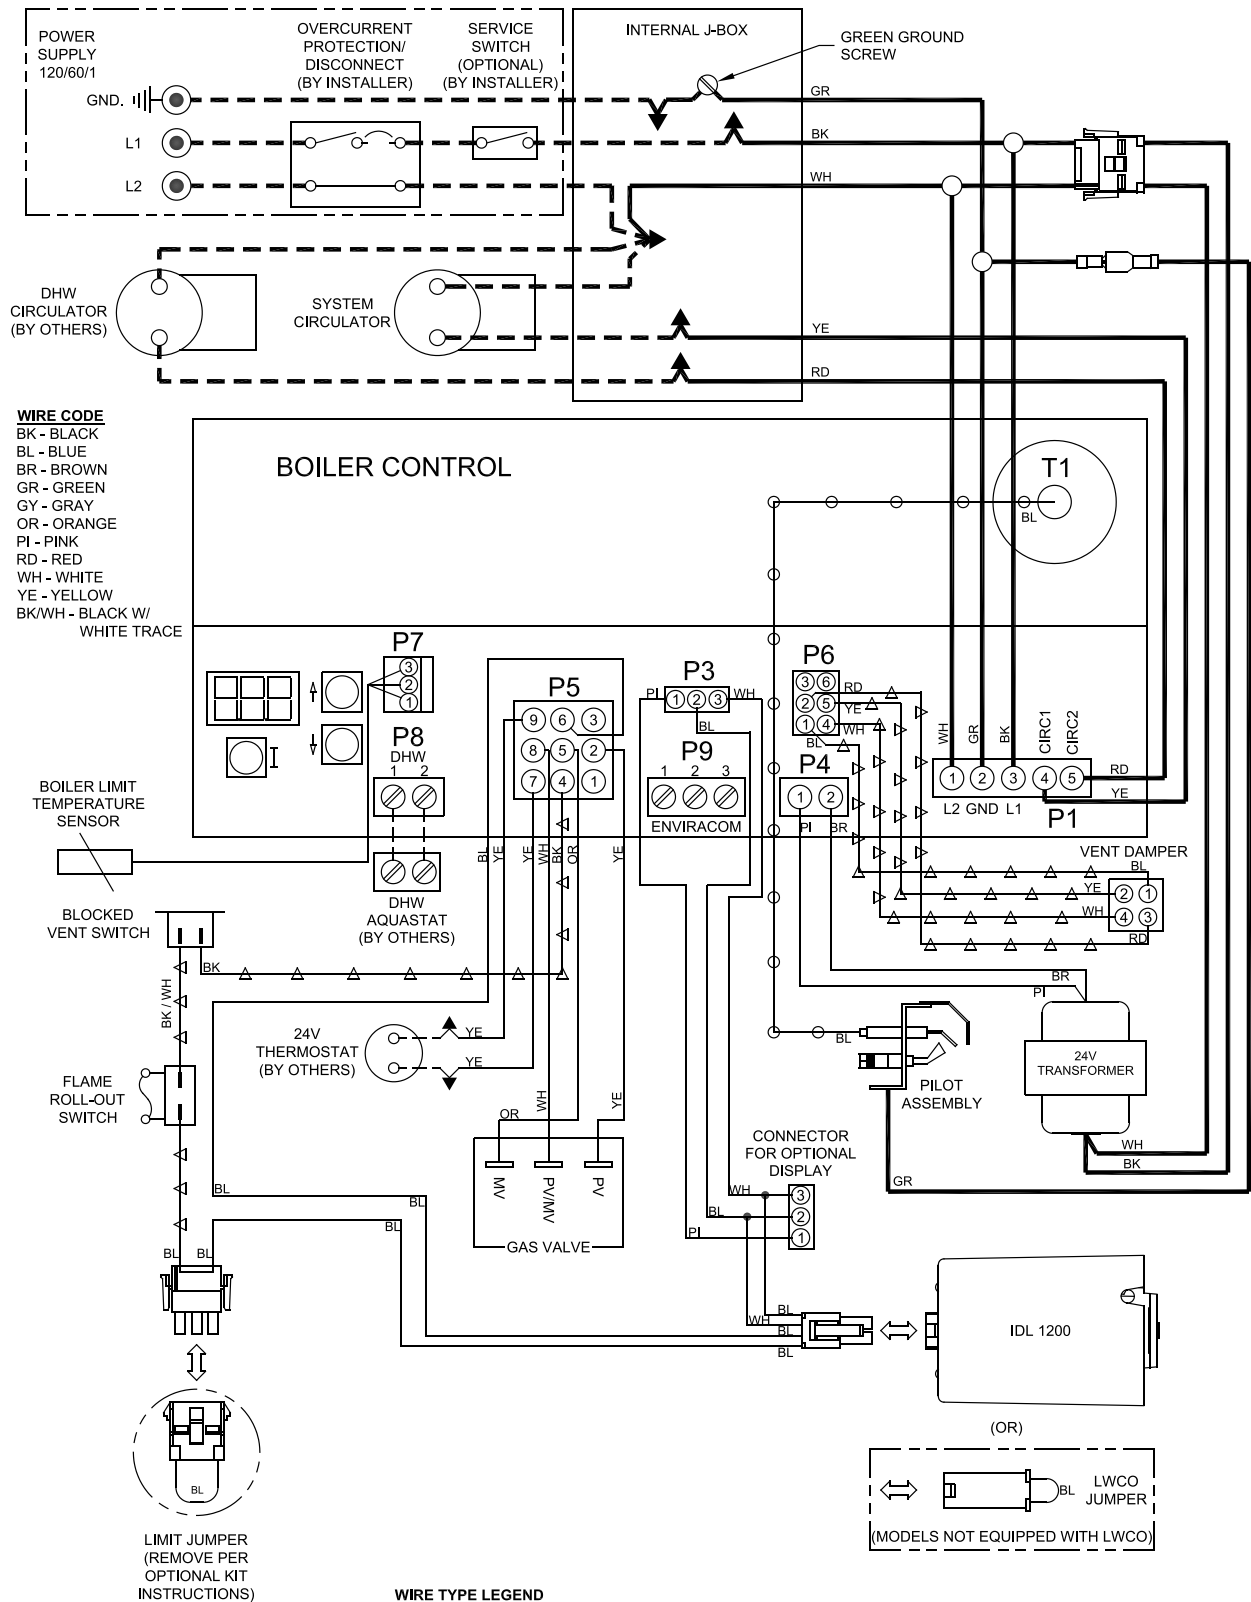

Figure 8: Wiring Connection Diagram
- C. Wire boiler.** Boiler is rated for 120 VAC, 60 hertz, less than 12 amperes. A separate electrical circuit must be run from the main electrical service with an over-current device/disconnect in the circuit. A service switch is recommended and may be required by some local jurisdictions. Connect to black and white wires and green ground screw. See Figures 8 and 9.